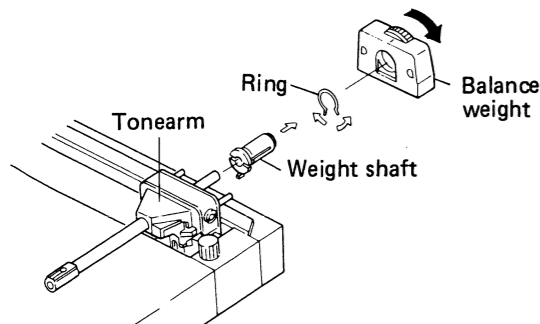

Fig. 3-3 Remove the balance weight
2. Remove the balance weight from the rear of the tonearm, open the ring out as shown in Fig. 3-3 and extract the weight shaft.